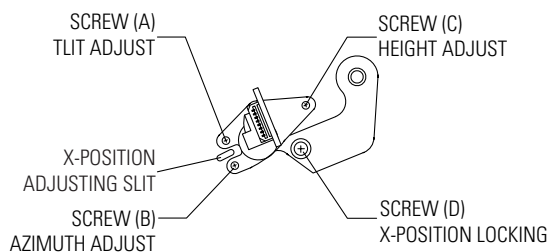

Fig. 2-3 Location of ACE Head Adjustment Screw
- 3) Turn screw (C) clockwise or counterclockwise until the gap of lower tape edge and the lower edge of the control head is about 0.25mm. (Refer to Fig. 2-3 and 2-4)
- 3) Adjust screw (B) to achieve maximum audio level. (See Fig. 2-3)